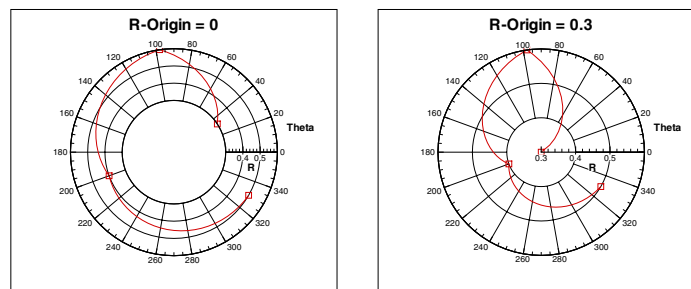

Figure 17-5. An example of changing the R-origin on a polar plot.
17.3.3.5. R-Origin. The R-Origin can be changed on the Range page of the Axis Details dialog. This setting specifies what value of R is represented at the center of the axis. The R-axis has a range of 0.3 to 0.6 and the effect of changing the R-origin value may be seen in Figure 17-5.